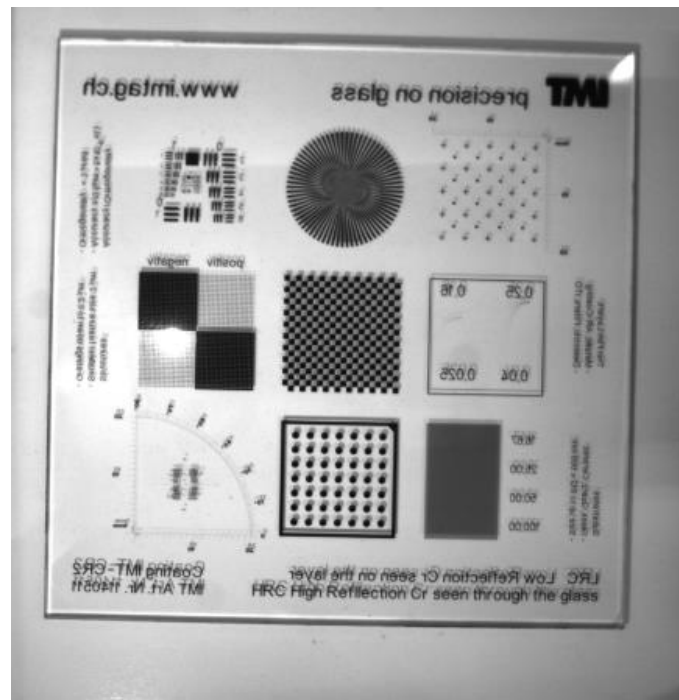

Figure6
- However, due to the magnification, it is only suitable for the capture and detection of larger objects.(figure6)